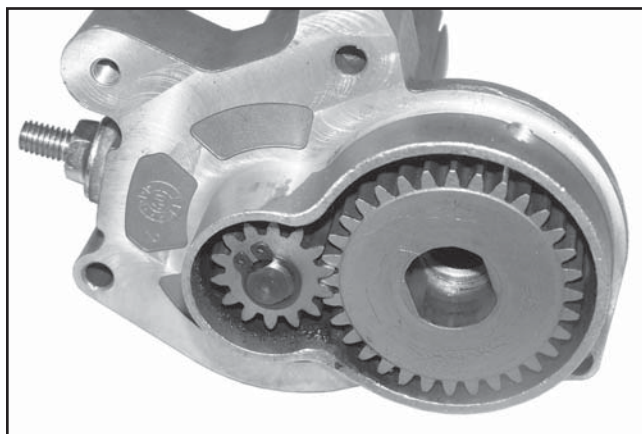

Figure 8-14. Lubricate Geartrain.
7. Apply a small amount of Kohler electric starter drive lubricant, (see Section 2) to the geartrain. See Figure 8-14.